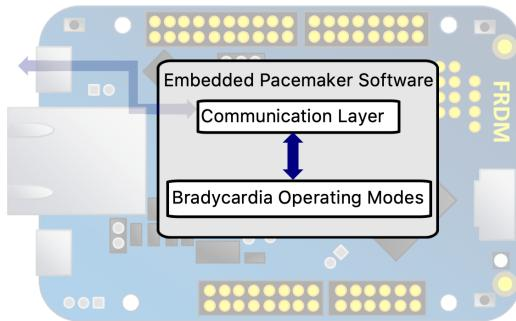

Figure 4: Simplified Functional Description of the Embedded Software.
**Pacemaker Hardware Reference Platform:** represents the pacemaker pulse generator embedded computer. The K64F executes the embedded pacemaker software that controls the GPIO pins to drive the pacemaker shield. The embedded pacemaker software also has a communication layer that implements a communication protocol for communicating with the DCM over a virtual serial port as shown in Figure 4 below.